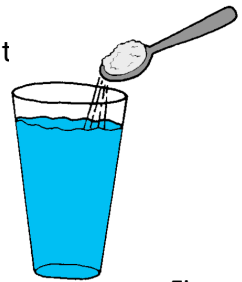

Figure 1
- ✓ Fill the glass within $\frac{1}{2}$ inch of the top with the warm water. Add the salt and stir with a spoon, as shown in *Figure 1*.